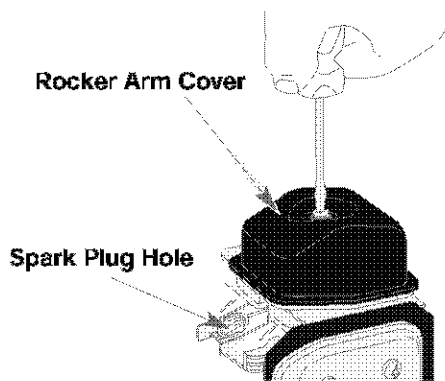

Fig. 54
- Clean dirt from around the rocker arm cover. Remove the screw holding the rocker arm cover with a large flat blade screwdriver or Torx T-25 bit (Fig. 54). Remove the rocker arm cover and gasket.
- The piston is at the top of its travel while looking in the spark plug hole (Fig. 54)